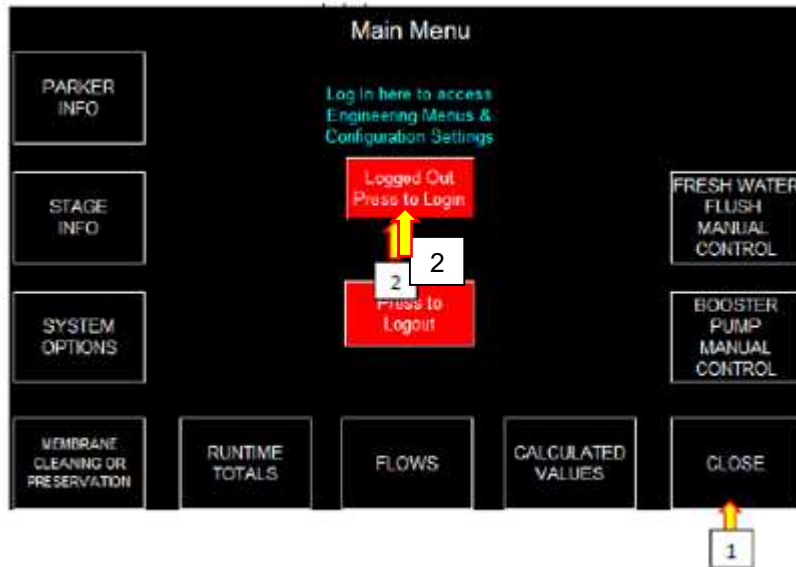

Figure 5.3 – Main Menu
- 3) The operator can access the Engineering Login screen by pressing this button (See item 2 in Figure 5.3 below).